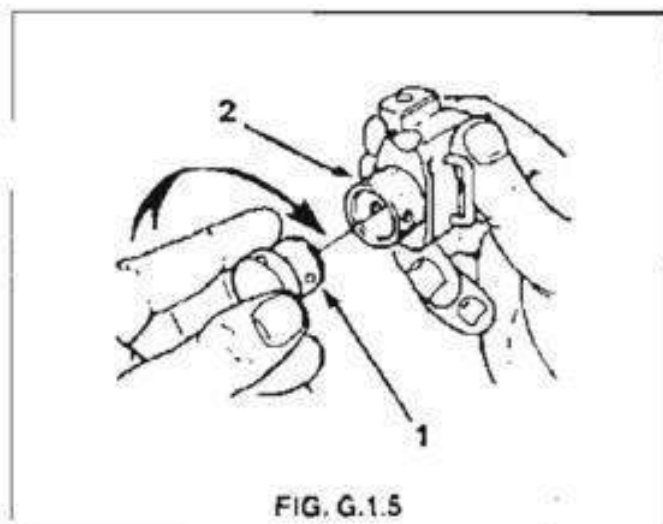

FIG. G.1.5
4. The nylon buffer can be pulled out of the bracket butt by hand. The nylon buffer may be damaged or worn at the top edge. This is the contact surface against which the rear of the bolt hit during the rearward movement of the recoiling parts. To rectify remove the nylon buffer, rotate it through 180° and assemble. See Fig G.1.5.